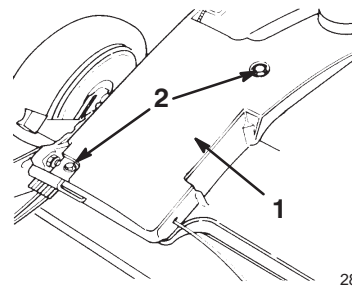

Figure 34
2. Remove the bolts that secure the belt cover to the lawn mower housing (Fig. 34).